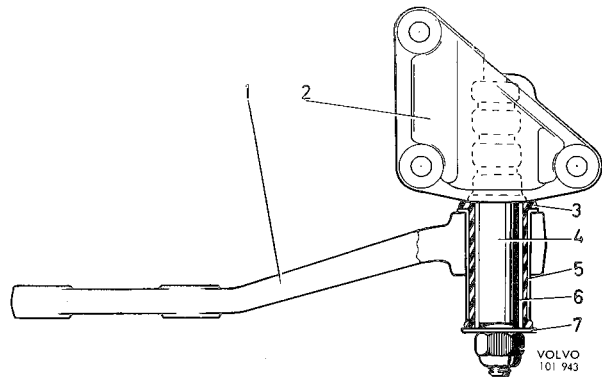

Fig. 6-43. Relay arm journaling
The relay arm (Fig. 6-43) is journaled by means of a bushing on a pin in the bracket. The bushing consists of three parts, a rubber bushing with an outer sleeve of plate and an inner one comprising a spacer sleeve. The outer sleeve has a press-fit in the relay arm hole. When the relay arm is turned, there is movement between the outer sleeve and rubber bushing, the space between which has been lubricated for life. The journaling is, in other words, "lubricated for life".
As soon as the front wheels have been turned to the desired position, and the forces acting on the steering wheel become less, the valve pistons return to the neutral position under the influence of the torsion rod. When the steering wheel is turned to the right (see Fig. 6-43), the piston (2) is screwed to the right in the figure. The valve piston (10) is moved to the right and permits oil under pressure to pass to the radial groove (18) of the valve housing and from there to the left side of the cylinder. Oil under pressure also flows to the return groove (7) which, however, is closed so that the oil pressure on the left side of the operating piston (2) rises and facilitates turning of the sector shaft. Oil at the right side of the cylinder is pressed by the piston via the radial groove (19) through the return groove (6) of the valve piston (10) back to the oil container (13).